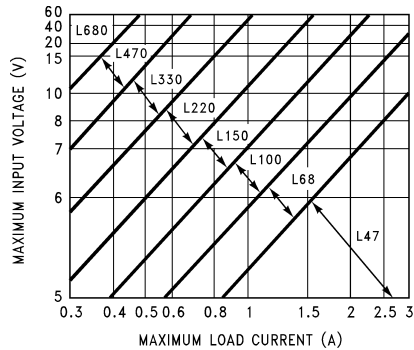
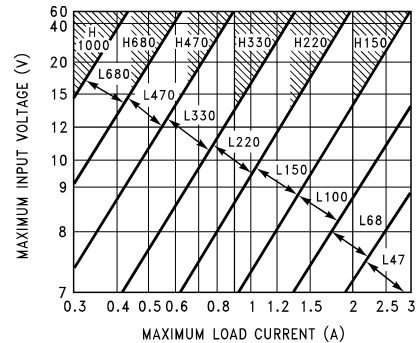
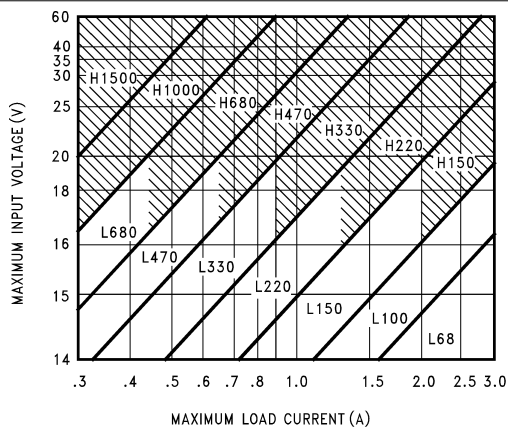
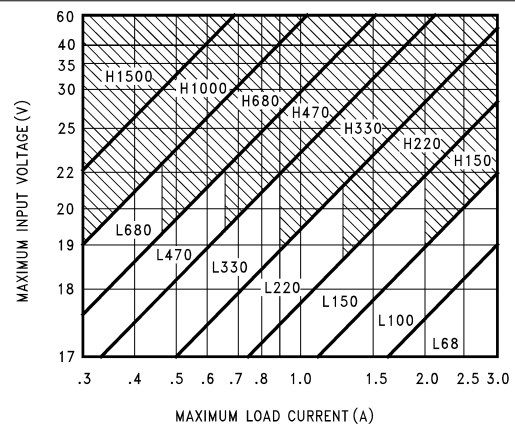

图 8-4. LM2576(HV)-3.3
图 8-5. LM2576(HV)-5.0
图 8-6. LM2576(HV)-12
图 8-7. LM2576(HV)-15
The inductor value selection guides in Figure 8-4 through Figure 8-8 are designed for buck regulator designs of the continuous inductor current type. When using inductor values shown in the inductor selection guide, the peak-to-peak inductor ripple current is approximately 20% to 30% of the maximum DC current. With relatively heavy load currents, the circuit operates in the continuous mode (inductor current always flowing), but under light load conditions, the circuit is forced to the discontinuous mode (inductor current falls to zero for a period of time). This discontinuous mode of operation is perfectly acceptable. For light loads (less than approximately 300 mA), it can be desirable to operate the regulator in the discontinuous mode, primarily because of the lower inductor values required for the discontinuous mode.
1. Select the correct Inductor value selection guide from 图 8-4, 图 8-5, 图 8-6, or 图 8-7. (Output voltages of 3.3 V, 5 V, 12 V or 15 V respectively). For other output voltages, see the design procedure for the adjustable version. Use the selection guide shown in 图 8-5.
- Identify the inductor value from the inductor code, and select an appropriate inductor from the table shown in Figure 8-4. Part numbers are listed for three inductor manufacturers. The inductor chosen must be rated for operation at the LM2576 switching frequency (52 kHz) and for a current rating of $1.15 \times I_{LOAD}$. For additional inductor information, see Section 8.1.2. Inductor value required is 100 μH from the table in Figure 8-4. Choose AIE 415-0930, Pulse Engineering PE92108, or Renco RL2444.